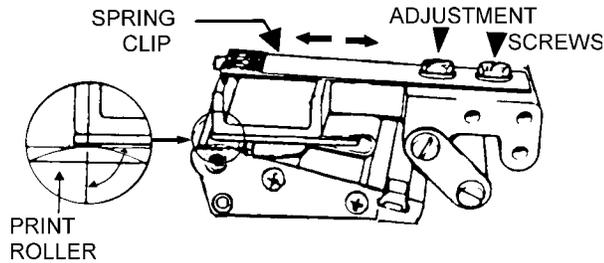

FIGURE 9
- a. Loosen the two (2) screws holding the spring clip and position the printhead such that the resistor line is over the front roller (figure 9).